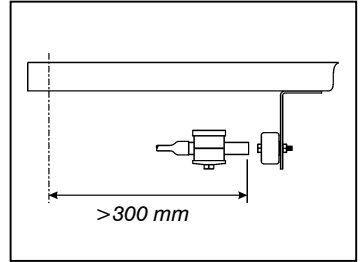
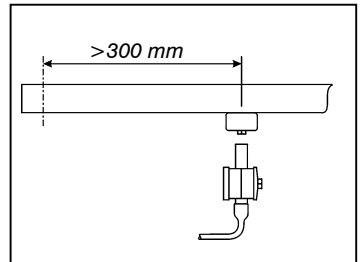

Figure 8
Figure 9
2. General purpose sensor and magnet mounting brackets are provided which can be modified if necessary. The sensor can be mounted parallel (fig. 8) or at right angles (fig. 9) to the lift arm.
- (a) the sensor must be positioned at least 300mm away from the lift arm pivot point (fig. 8 and 9).